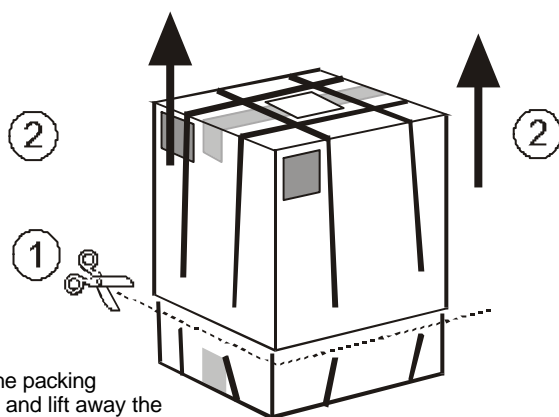

Fig. 1 Cut the packing strips and lift away the top of the shipping container.
- Cut the packing strips and remove the top of the shipping container (Fig. 1).